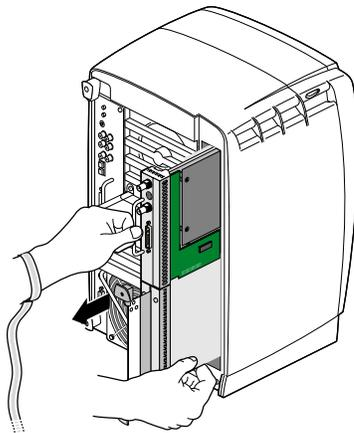

Figure 5-9 Removing the XIO Tri-Module
3. Grasp the XIO Tri-Module by the immovable handle, and support the base of the module as you remove it from the chassis, as shown in Figure 5-9.